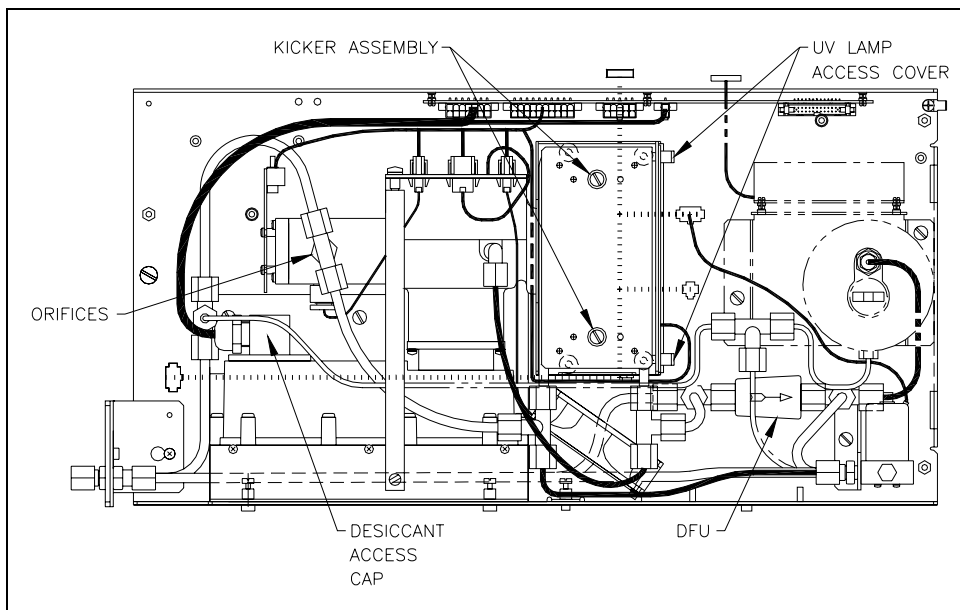

Figure 11. Routine Maintenance Components (B Series)
1. Remove the 1/4" Teflon lines from the tee in the exhaust arm of the Rx cell and unthread the tee from the fitting. Refer to Figure 11.
3. Remove the UV lamp access cover and remove the two captive screws that secure the kicker to the UV lamp housing. Refer to Figure 11. Gently move the kicker backward away from the UV lamp.
2. Remove the UV lamp access cover and remove the two captive screws that secure the kicker to the UV lamp housing. Refer to Figure 11. Gently move the kicker backward away from the UV lamp.
2. Using an offset Phillips head screwdriver, remove the desiccant pack access cap from the PMT housing. Refer to Figure 11.